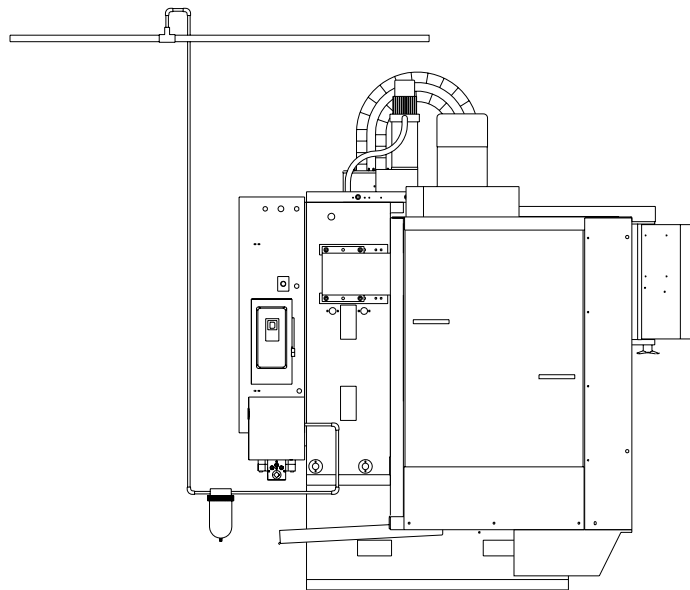

Figure 2-4 Attach Drain to Lowest Point of Air Supply Line
- 4) To prevent moisture from entering the VMC's air system, attach a drain to the lowest point of the air supply line. (See figure 2-4). The drain could be a self-relieving moisture separator, a simple petcock, or a gate valve opened occasionally to release the water build-up. An air dryer is preferred where higher moisture levels exist.